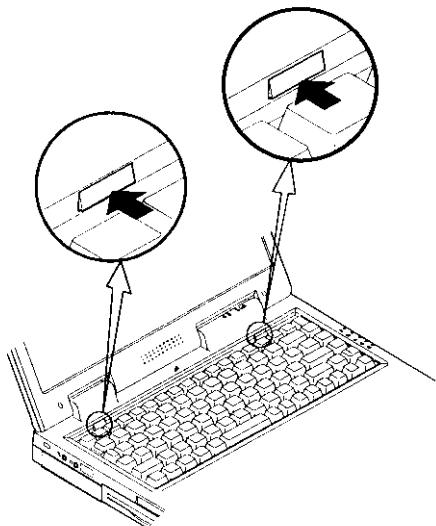

Figure 2-4
2. Press the two keyboard latches to elevate the keyboard from its normal position (Figure 2-4).